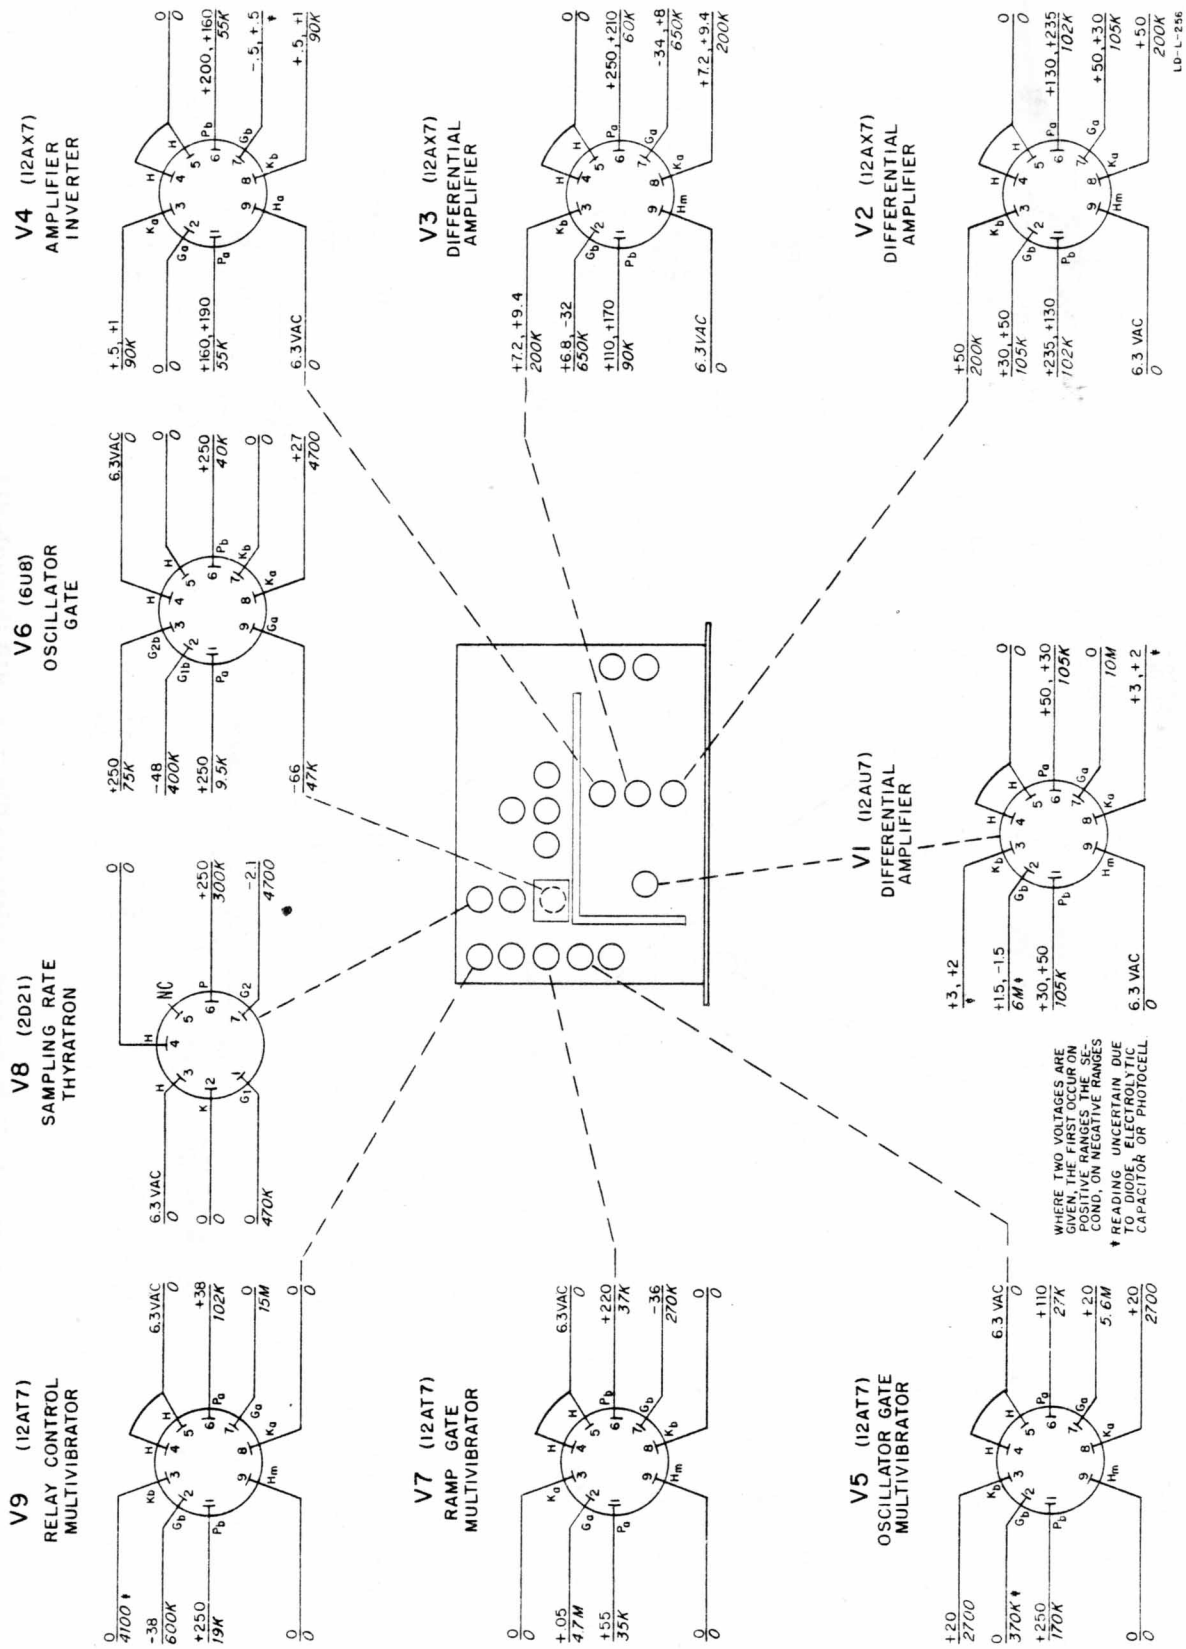

Figure 4-6. Voltage and Resistance Diagram, V1 through V9
- 4) Check tubes, voltages, and resistances throughout suspected circuits to locate faulty components. See Figures 4-6 and 4-7 for typical voltages and resistances. If the counter units are at fault, see AC-4 Decade Counters manual.